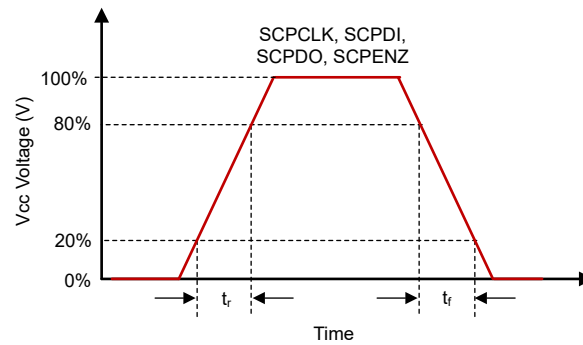

Figure 5-3. SCP Requirements for Rise and Fall
(1) See Figure 5-3 for Rise Time and Fall Time for SCP.